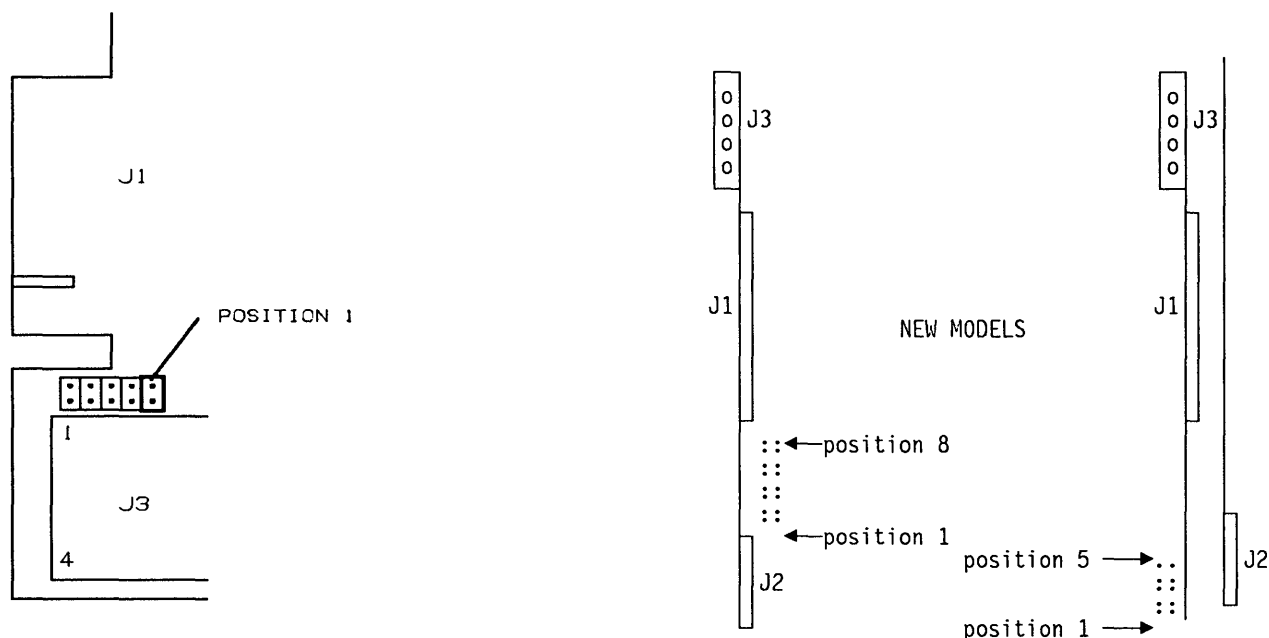

Figure 5-55. HDD Jumpering (Old Model and New Models)
- e. Ensure that there is a jumper in position 1. See Figure 5-55.